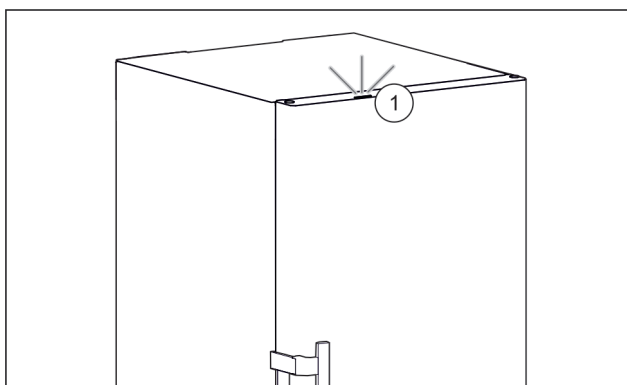

Fig. 89 Active status light when the door is closed
- Status light Fig. 89 (1) is activated.